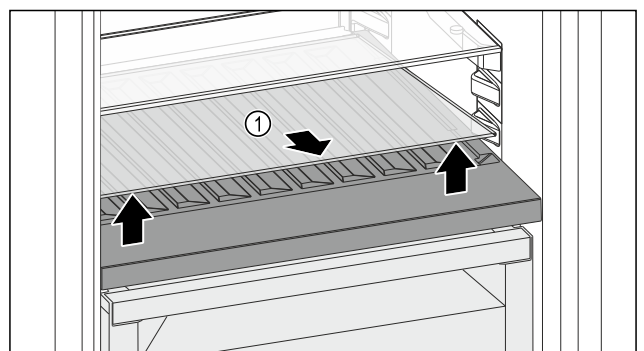

Fig. 103
- Lift the glass shelf Fig. 103 (1) at the front and remove.
- Store the glass shelf Fig. 103 (1) in a safe place outside the appliance.